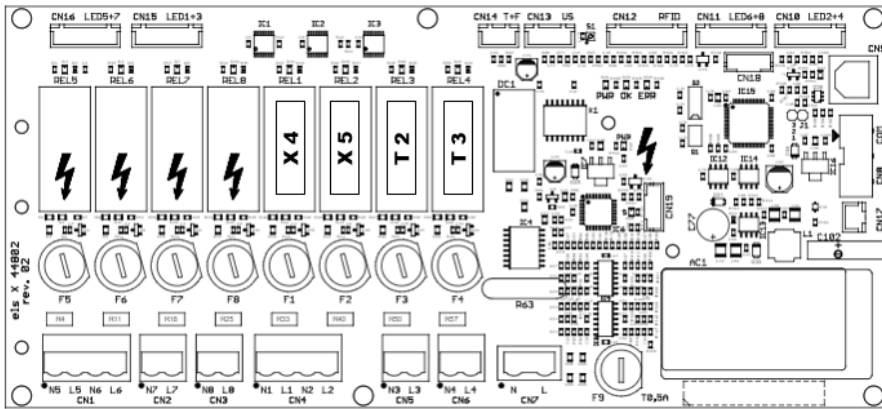

Figure 15: Position of the fuses
- ▶ Identify the fuses on the electric PCB (Fig. 15) using the designations **E1** (Switch cabinet heating optional), **X4** (Charging point top left as viewed from the front), **X5** (Charging point top right as viewed from the front), **T2** (Charging point bottom left as viewed from the front) and **T3** (Charging point bottom right as viewed from the front).